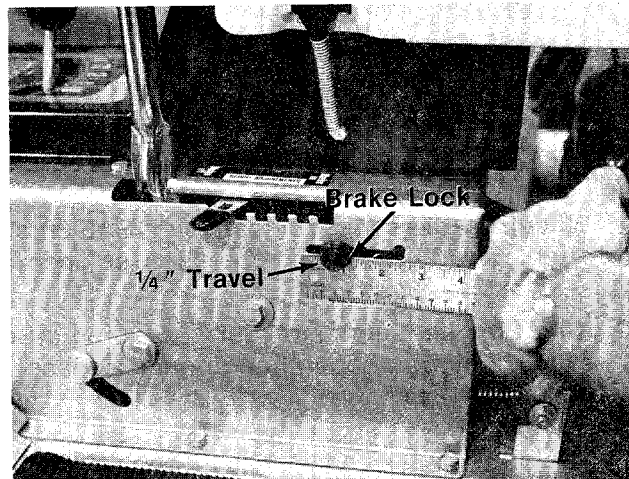

FIGURE 25.
2. If the adjustment is correct, the brake lock should move 1/4 inch. (See figure 25.)